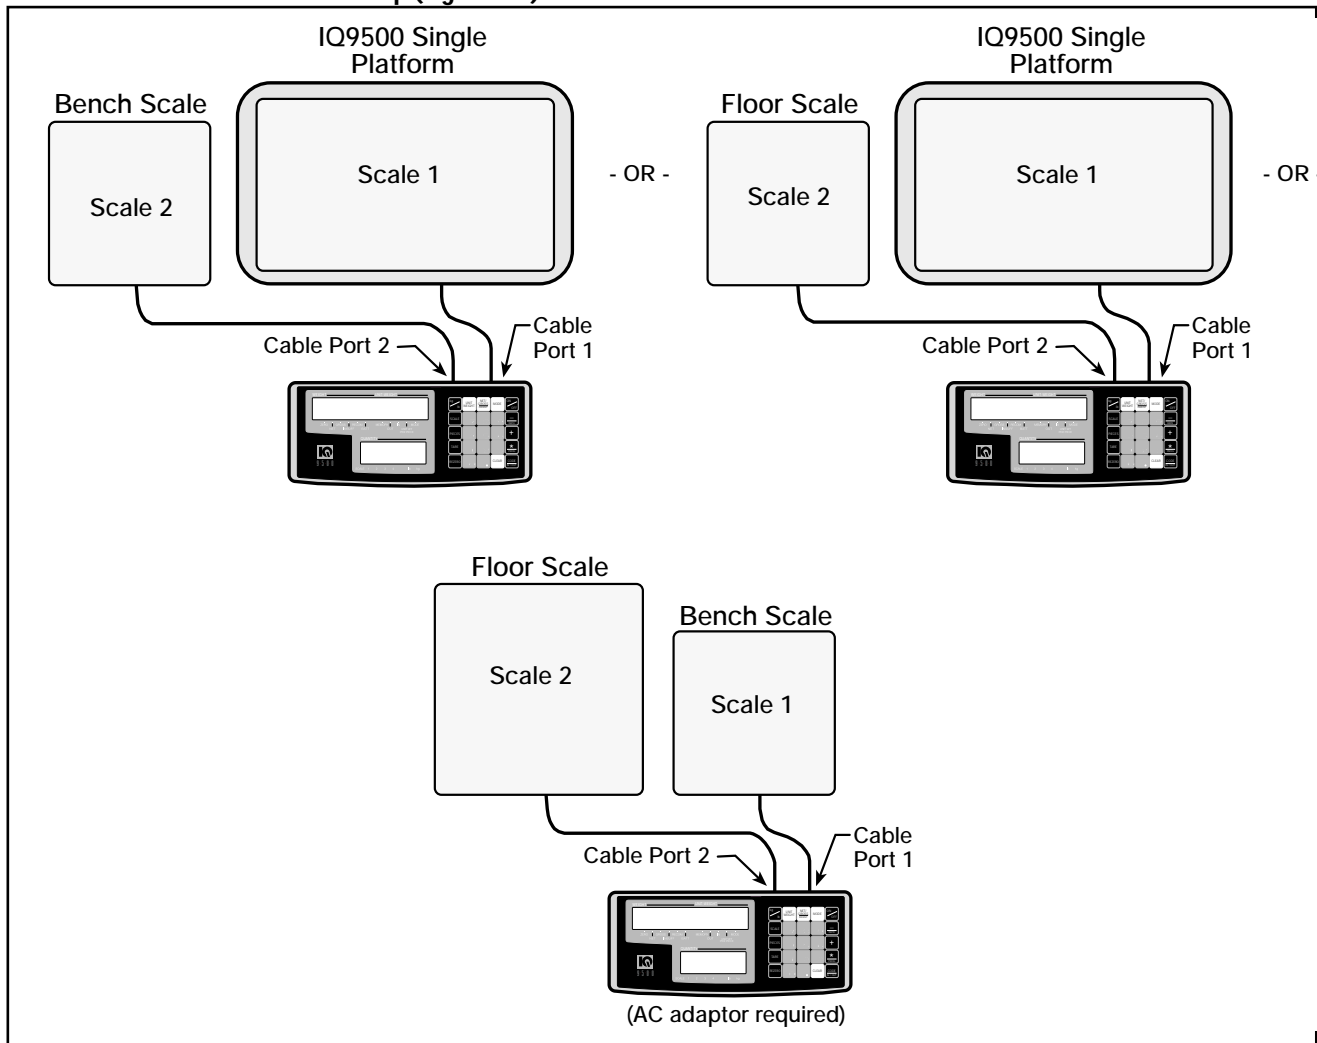

Figure 7-4. Diagram of Two Platform Scale Setup
7.2.3 Two Platform Scale Setup (Figure 7-4)